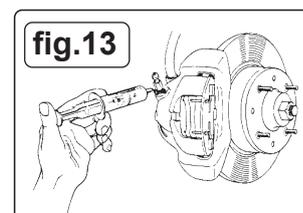

fig.13
- 9.11.4. Apply copper grease to the brake bleed nipples before and after the brake bleeding procedure to eliminate the possibility of seized or broken nipples when the brakes are next bled (See fig.13).